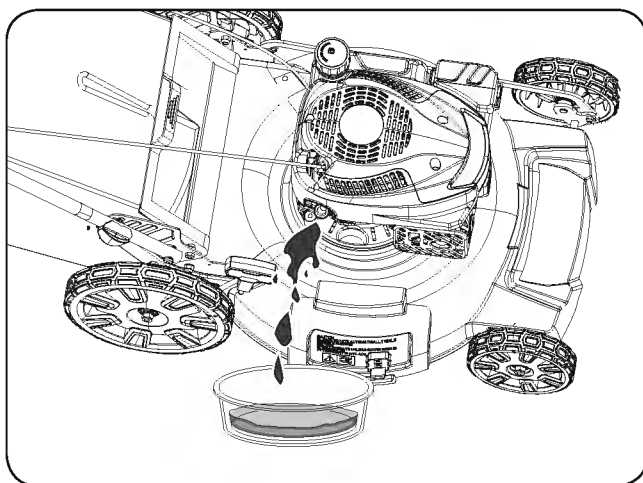

Figure 16
4. Tip the machine onto its side (so that the air filter is up) to drain the used oil from the oil-fill tube. (See **Figure 16**)